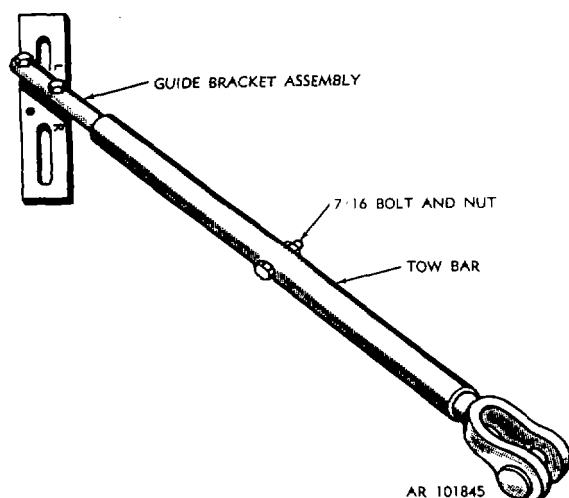

Figure 2-13. Tow bar assembled to Guide bracket.
e. Secure tow bar and tube onto (wire) guide bracket using 7/16 bolt and nut (fig. 2-13).